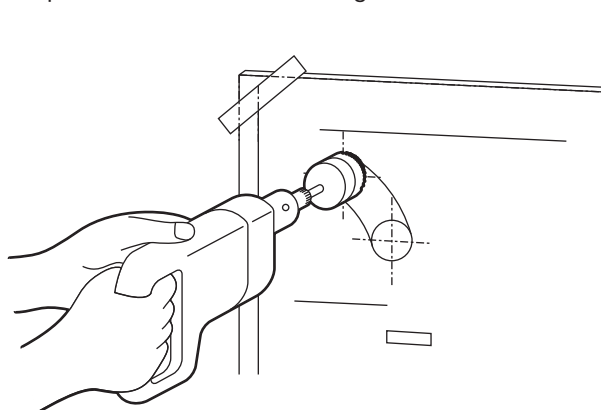
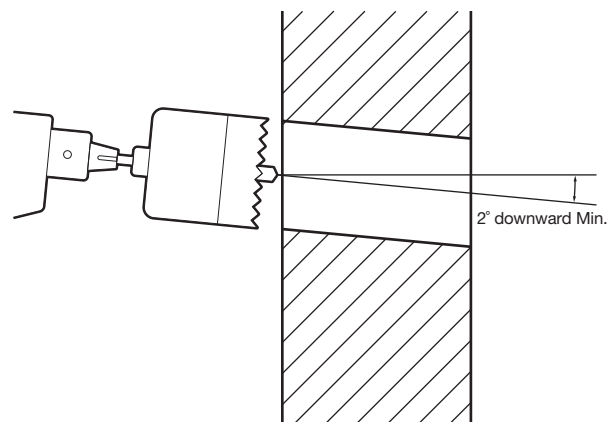

Fig. 5
Fig. 6
5. Cut the hole for the flue pipe from inside the room. Use a 2-3/4 to 3" diameter hole saw attached to an electric drill (See Fig. 5). The opening on the inside wall should be slightly higher than the outside opening (approximately 1/4") so that the flue pipe will slope slightly downward (approximately 2 degrees) after it is installed (See Fig. 6). This will enable the draining of condensed moisture from the flue pipe to the outside and prevent rain or snow entering from outside after installation.